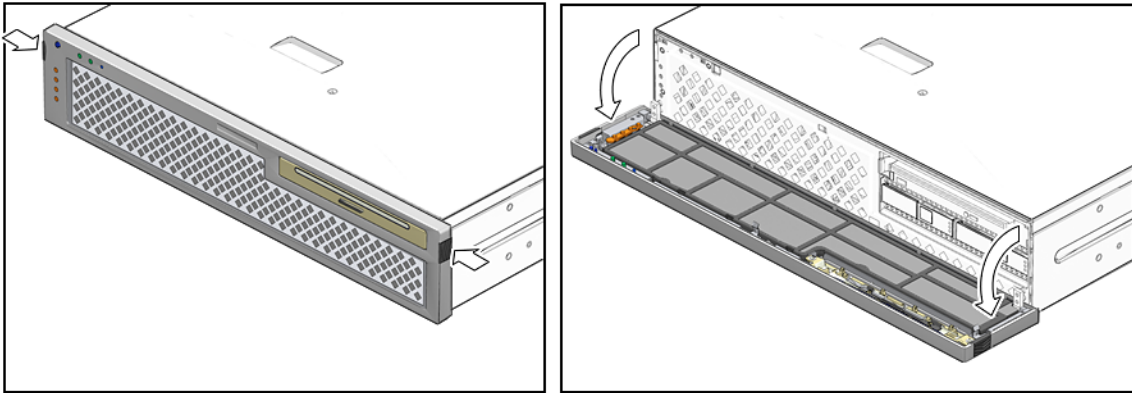

FIGURE 5-1 Opening the Bezel
1. Press the green tabs on either side of the bezel and pull forward and down (FIGURE 5-1).